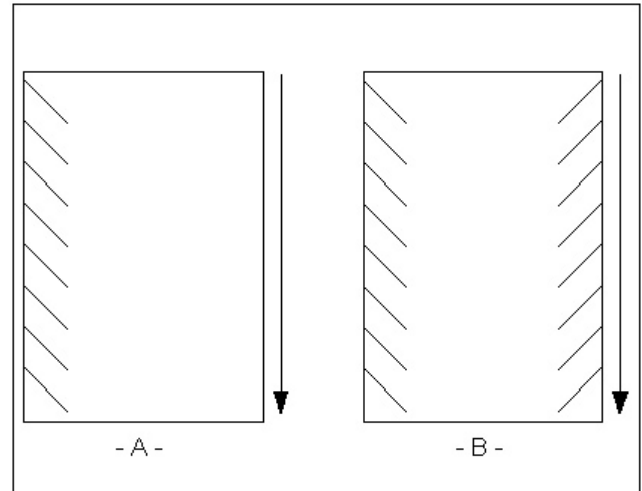

Fig. 6-27. Angled Waves in Output.
### 5. Angled waves in the output (Fig. 6-27 A & B).
- Check for even paper tension (Fig. 6-27 A only).